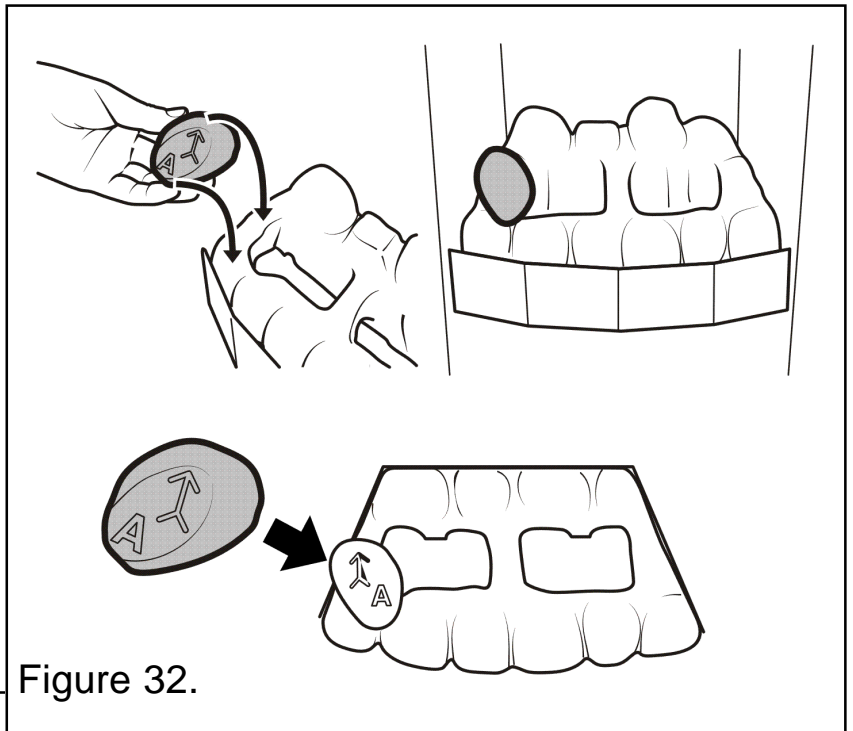

Figure 32.
2. The pebbles should be positioned so that the arrows always point towards the back of the fireplace opening. When located into position the stem of each arrow should be at 90° to the rear of the fireplace opening (See figure 32).
3. Hold pebble 'A' upright with the arrow pointing to the top. Place pebble "A" on top of the base pebble (See figure 32).